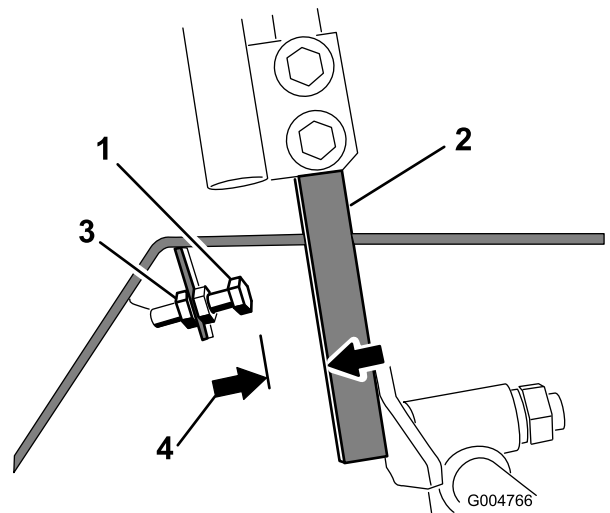

Figure 55
4. Loosen the jam nut on the stop bolt for a control lever (Figure 55).